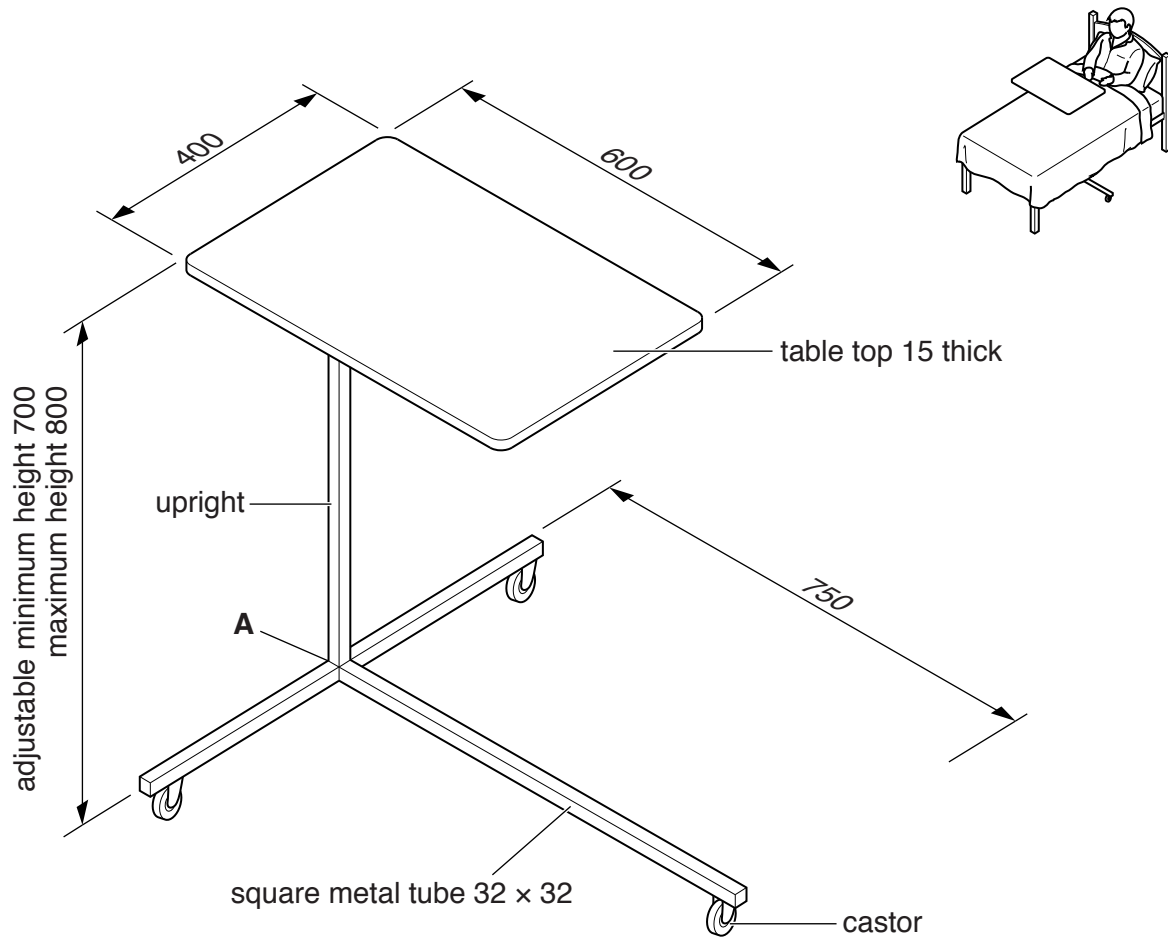

Fig. 10
- 12 Fig. 10 shows a bedside table. The height of the bedside table can be adjusted. The table top is made from veneered manufactured board. The legs and upright are made from square metal tube.